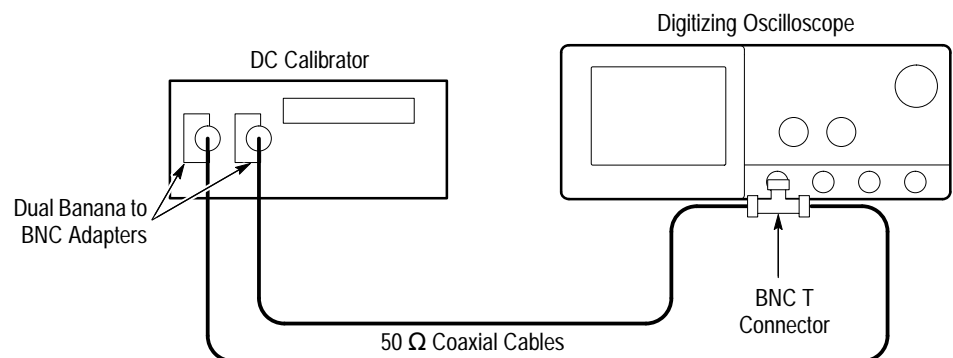

Figure 4–23: Subsequent Test Hookup
- Connect the output of a DC calibration generator through a dual-banana connector followed by a 50  $\Omega$  precision coaxial cable to one side of a BNC T connector. See Figure 4–23.
- Connect the Sense output of the generator through a second dual-banana connector followed by a 50  $\Omega$  precision coaxial cable to the other side of the BNC T connector. Now connect the BNC T connector to **CH 1**. See Figure 4–23.